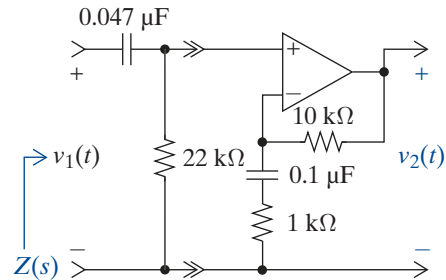

FIGURE P11–15
- 11–16 Find the input impedance $Z(s)$ in Figure P11–15.